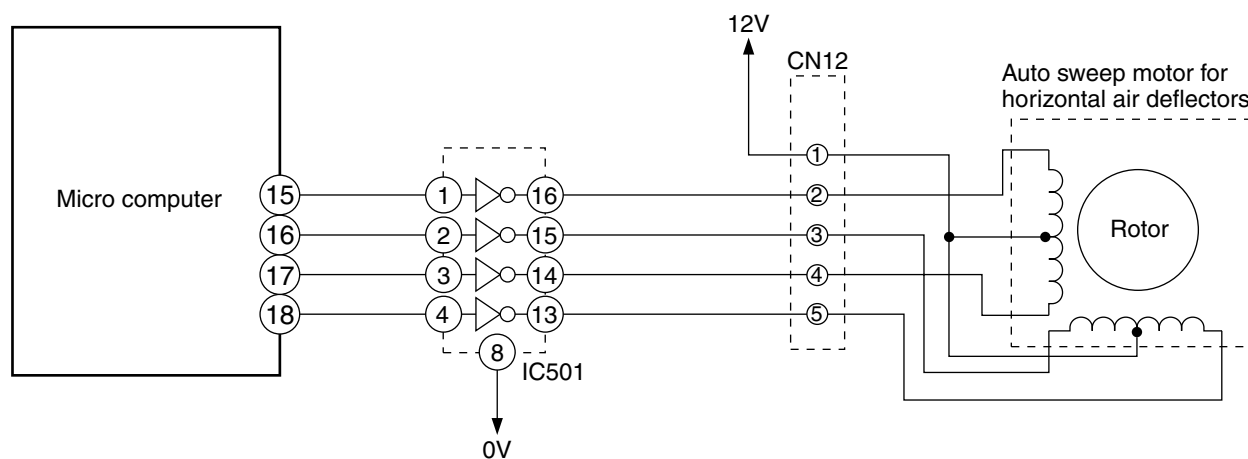
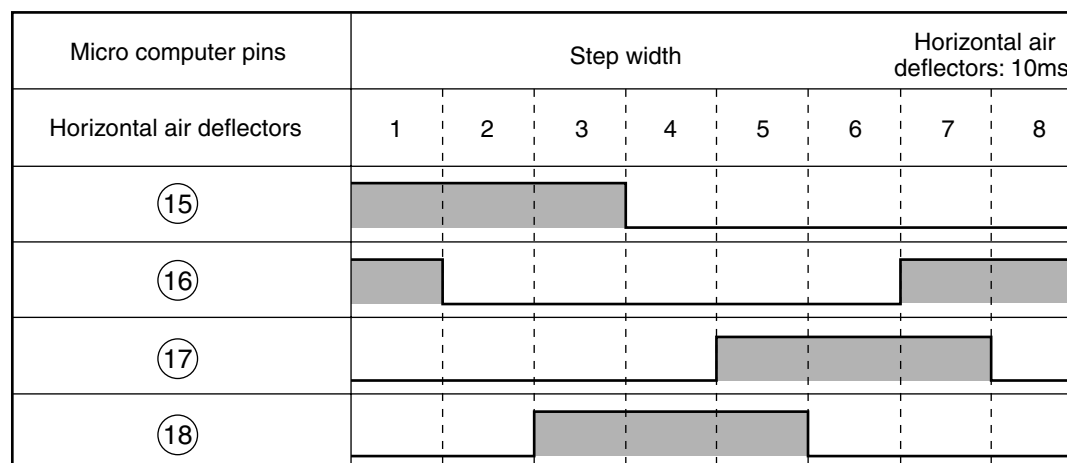

Fig. 5-1 Auto Sweep Motor Circuit (Horizontal air deflectors)
Fig. 5-2 Micro computer Output Signals
- Fig. 5-1 shows the Auto sweep motor drive circuit; the signals shown in Fig. 5-2 are output from pins ⑮–⑱ of the micro computer.
- As the micro computer's outputs change as shown in Fig. 5-2, the core of the auto sweep motor is excited to turn the rotor. Table 5-1 shows the rotation angle of horizontal air deflectors.